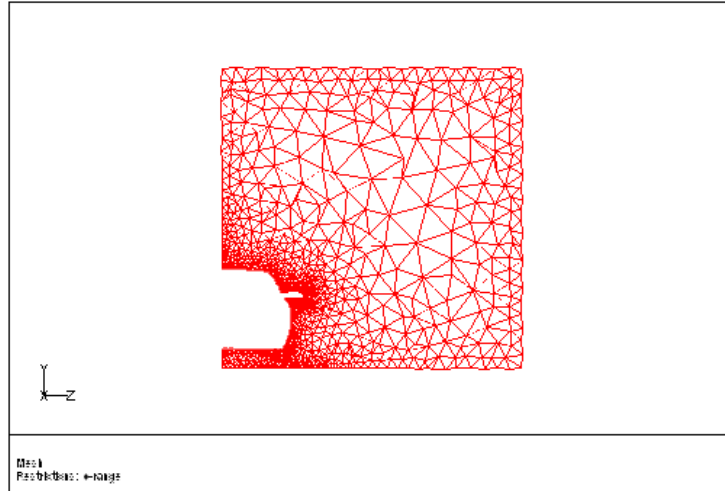

Figure 2.13: Slide of Cells at $X = -0.37$
- (a) Display the mesh on a slide through the mirror and the car ($x = -0.37$). See Figure 2.13.